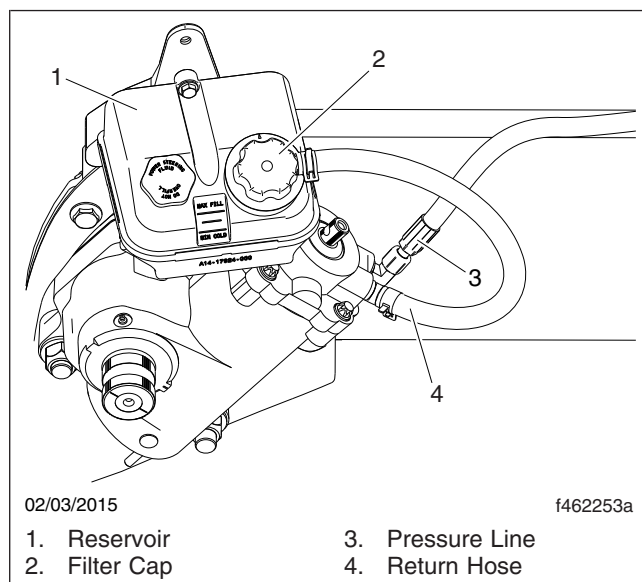

Fig. 4, Power Steering Reservoir
7. Remove the pressure line and return hose (see Fig. 4) from the steering gear and allow the oil to drain.
- MAX HOT lines. See Fig. 4. See Table 1 for approved power steering fluids.